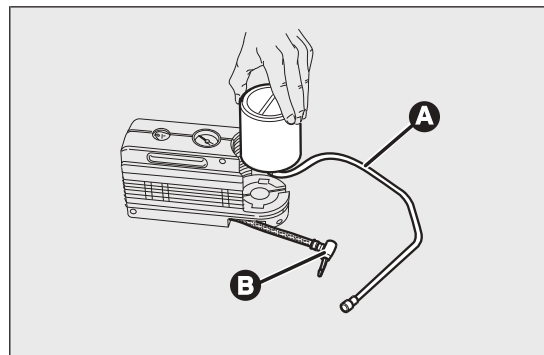

fig. 138
- disconnect coupling B fig. 138;